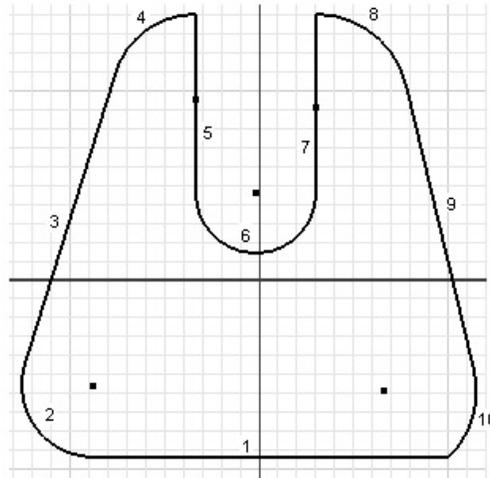

Figure 3-59 Profile with geometries numbered
- a. Start a new metric template and draw the outer loop of the sketch, refer to Figure 3-59.
1. To draw the outer loop, invoke the **Line** tool from the **Draw** panel in the **Sketch** tab, refer to Figure 3-59.
The outer loop that you created in the previous step might be different from the one shown in Figure 3-59. You can find the missing constraints by following the next step and applying constraints accordingly.
Adding Constraints to Sketched Entities As evident from Figure 3-59, some of the constraints such as tangent and equal are missing in the sketch. The sketch shown in Figure 3-59 may not be symmetrical and all the lines in the sketch may not be tangent to the arcs. Therefore, you need to add these missing constraints manually to the sketch to complete it. You can choose the **Show Constraint** option from the Marking menu that is displayed when you right-click on an entity.
1. In Figure 3-59, the **Tangent** constraint is missing between line 1 and arc 10. To add this constraint between the line and the arc, choose the **Tangent** tool from the **Constrain** panel of the **Sketch** tab; you are prompted to select the first curve. Select arc 10 as the first curve; you are prompted to select the second curve. Select line 1 as the second curve. Similarly, add this constraint to all the places in the sketch wherever it is missing.